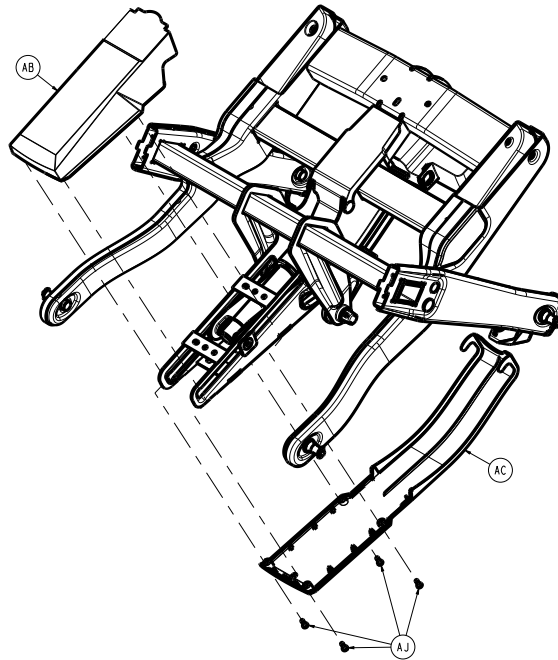

Figure 44 – Removing the lift covers
4. Using a T20 Torx driver, remove the four screws (AJ) that secure the lift arm bottom cover (AC) and lift arm top cover (AB) together (Figure 44). Remove and save the covers. Save the screws.